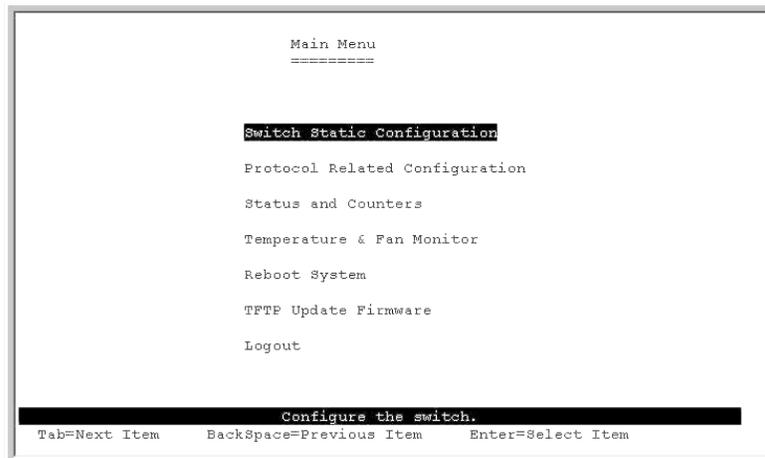

Figure 11. Main Menu
The Main Menu displays (see figure 11 on page 33)
2. Choose *Switch Static Configuration* from the *Main Menu* screen (see figure 11).